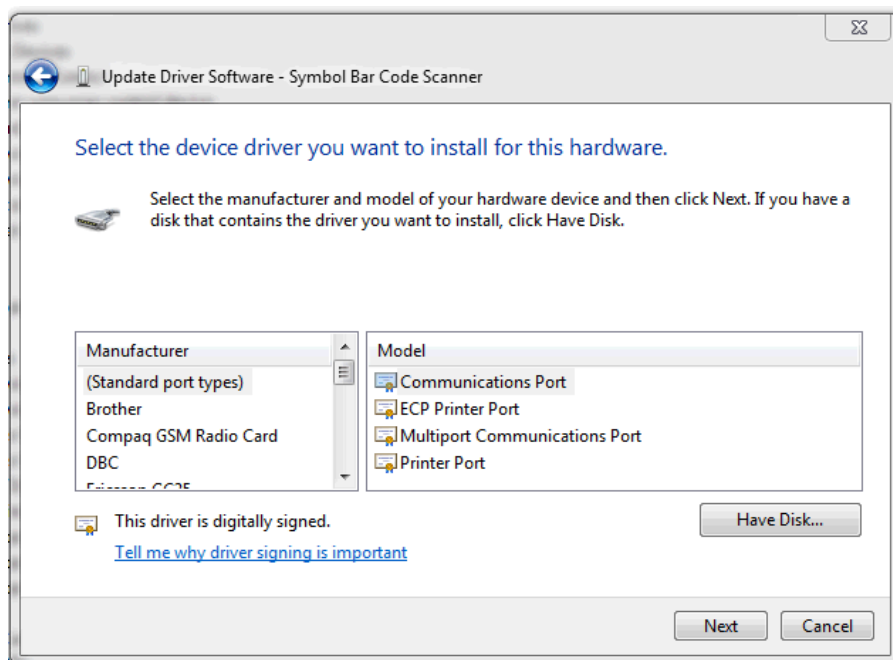

Figure 15: Device driver selection
- h. In the dialog box that appears, click **Have Disk** (see Figure 15).